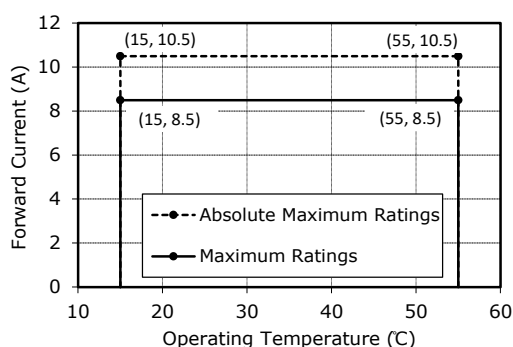

Figure 1. Derating Characteristics
² The maximum rating provided in Figure 1 should not be exceeded.
(1) Laser Hazard
(2) Storage
(3) Design Consideration
- This LD is a semiconductor device that has a high current density during operation in the emission layer. Exceeding the Absolute Maximum Ratings may damage the LD. The circuit must be designed to ensure that the Absolute Maximum Ratings (see Absolute Maximum Ratings and Figure 1) are not exceeded even if the LDs are operated only for a short period of time.
- Since the lifetime of the LD will become shorter as the operating current and/or the optical output power becomes larger, the maximum ratings provided in Figure 1 should not be exceeded.
(4) Handling Precautions
(5) Shape of the Beam